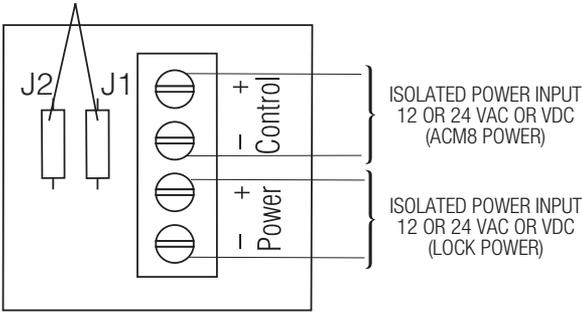

Fig. 4 Polarity reversal input from FACP signaling circuit output (polarity is referenced in alarm condition):
7. **Fire Alarm Interface options** (*Figs. 4 through 8, pg. 9-10*):
FACP INTERFACE T, + INPUT –	Fire Alarm Interface trigger input from FACP. Trigger inputs can be normally open, normally closed from an FACP output circuit ( Fig. 4 through 8, pgs. 8-9 ).